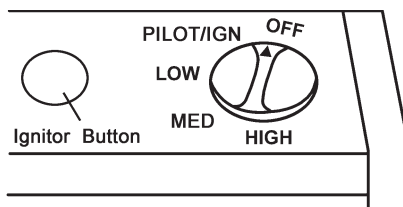

Figure 15 - Control Knob In The OFF Position
3. Push in gas control knob slightly and turn clockwise ↻ to the OFF position (see Figure 15).